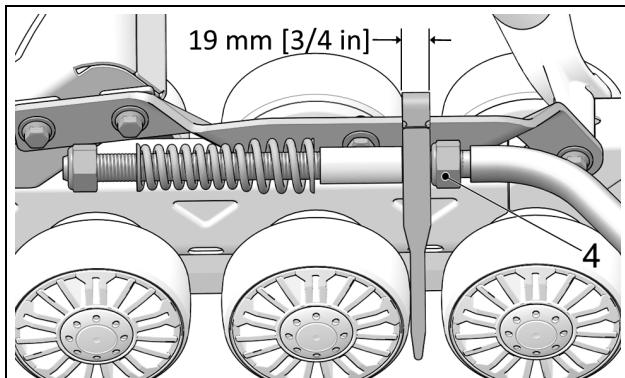

Figure 12
- Set the nut (4) to obtain a distance of 19 mm between nut and stabilizing arm guide as shown on Figure 12.